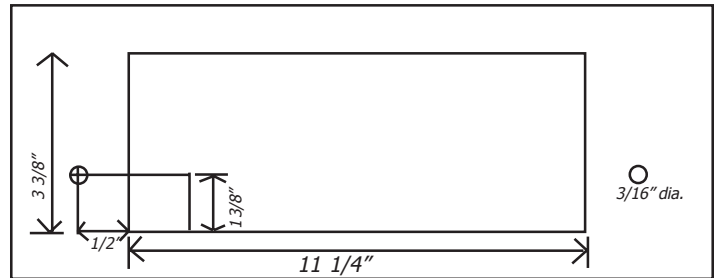

Figure 3: Remote Control Installation Cut-out Dimensions
Drill starter holes for screws (2). See Figure 3 for appropriate dimensions.